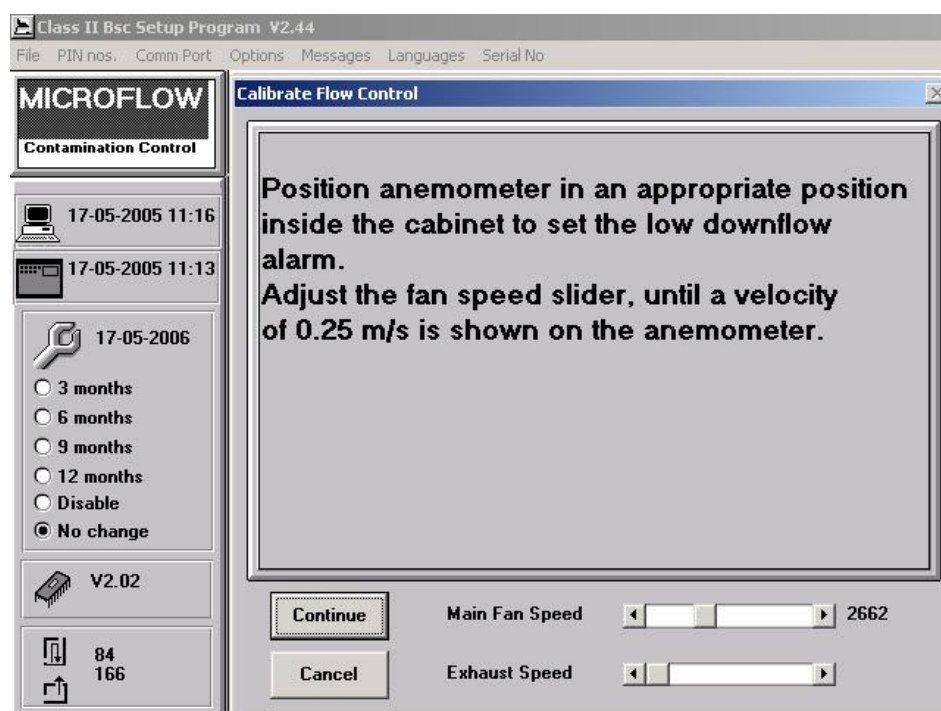

Figure 20 Typical Alarm Calibration Screen
- (f) A dialogue box will now appear - similar to the illustration of Fig. 20. With the anemometer at a position representing the average velocity, adjust the fan to give the High and low downflow alarm values.